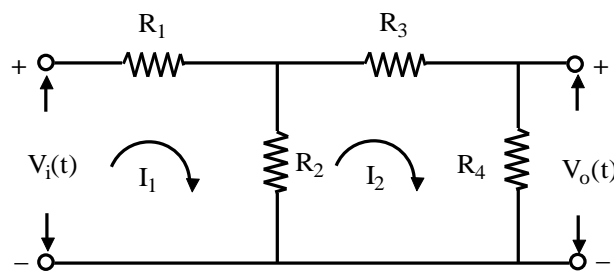

Fig. 4 - a
- b) Determine T.F. $\frac{C(s)}{R(s)}$ of signal flow graph shown in fig. 4 b.